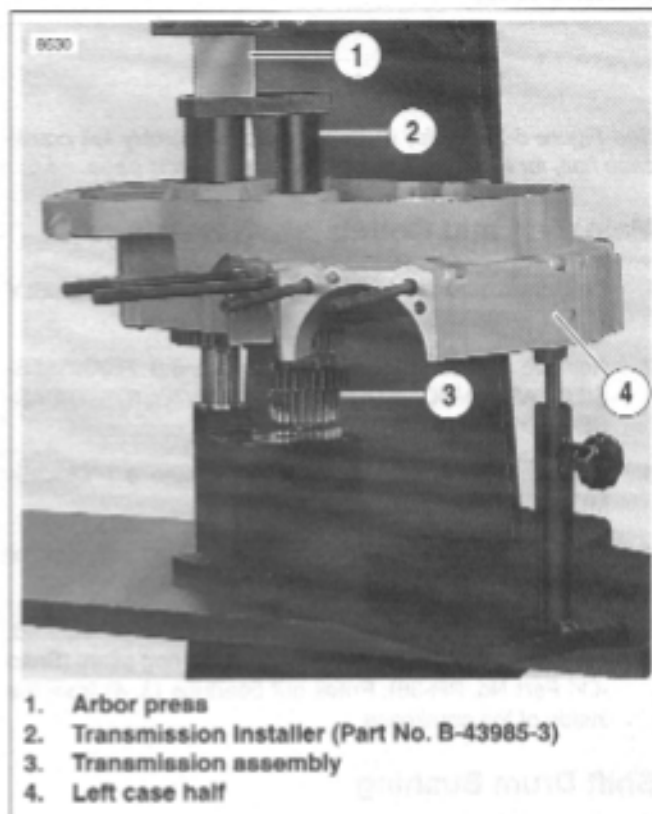

Figure 6-76. Installing Transmission in Left Case Half
3. See Figure 6-76. Place left case half over transmission assembly and install TRANSMISSION INSTALLER (Part No. B-43985-3) into crankcase.
4. See Figure 6-76. Press crankcase onto transmission assembly into until it bottoms out.